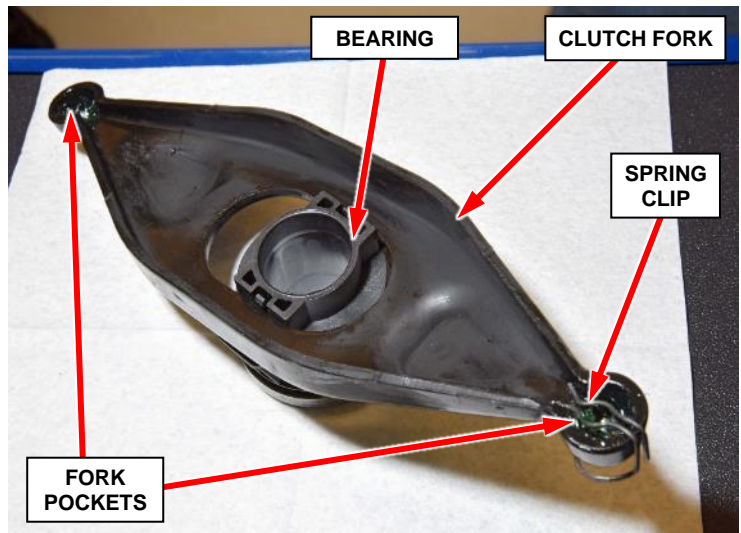

Figure 18 – Clutch Fork Assembly
57. Replace the clutch release bearing and apply a thin coat of high temperature wheel bearing grease to clutch fork / release bearing interface (Figure 18).
58. Position clutch release bearing to clutch release fork and properly snap in place, ensure clips are fully seated. Apply 1 gram of high temperature wheel bearing grease to fork pockets. Position spring clip to fork and snap in place as shown in figure 18. Position sub assembled fork/bearing/spring clip to trans guide shaft/quill, then slide in place. Position spring clip over trans pivot ball stud then snap in place. Ensure properly seated.